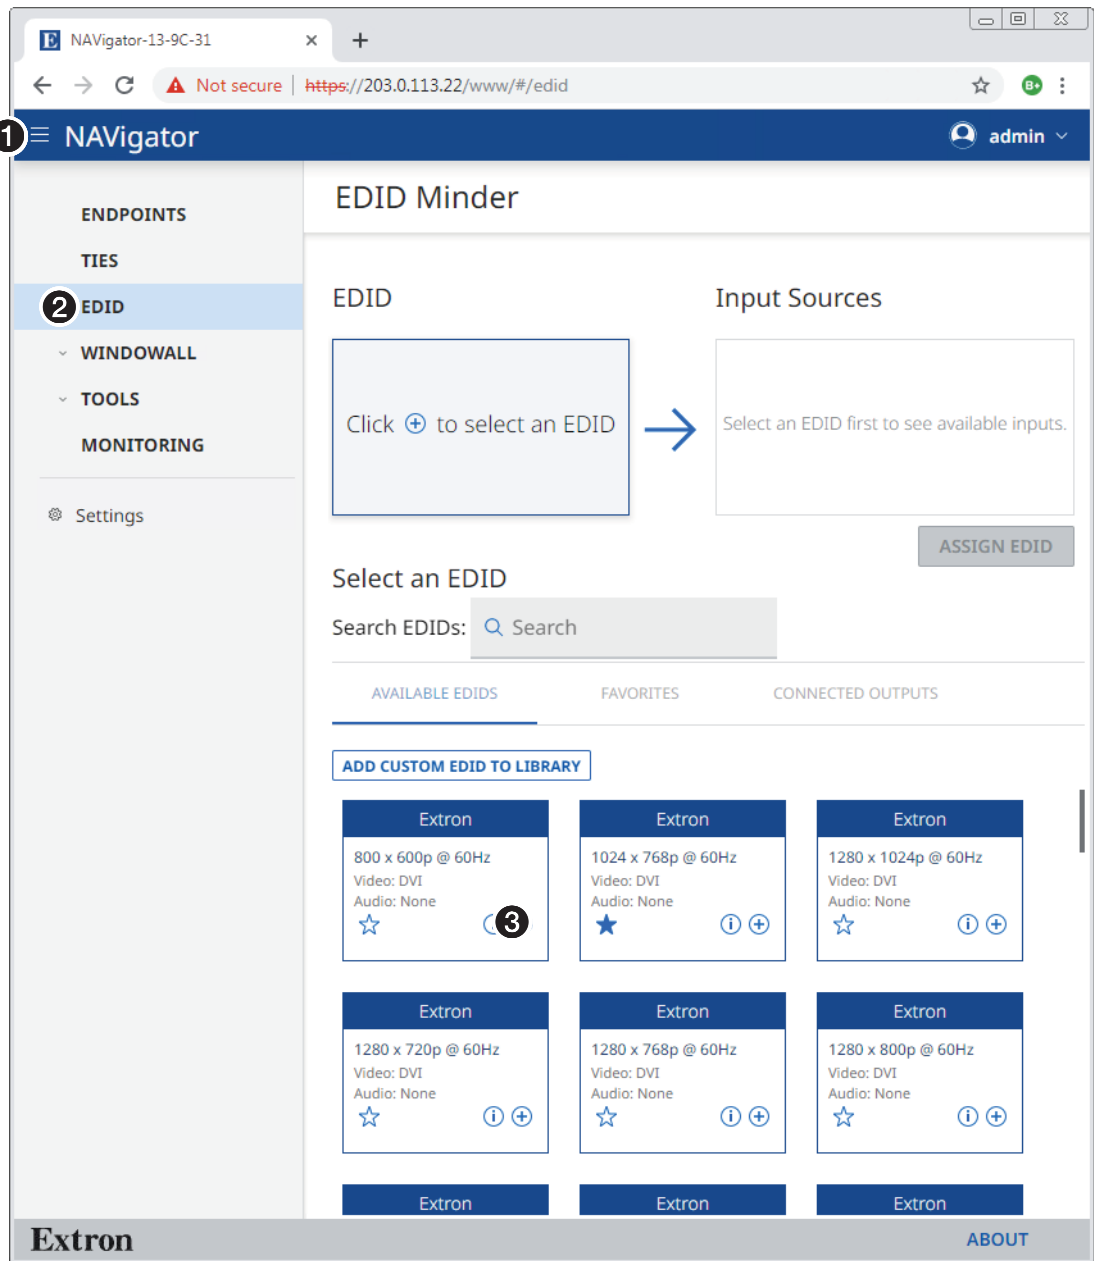

Figure 52. EDID Pane
1. If necessary, click the **Menu** icon (see figure 52, ❶).
- Click the EDID **-** (**A**) to clear all selections. The page appears as in **figure 52** on page 54.